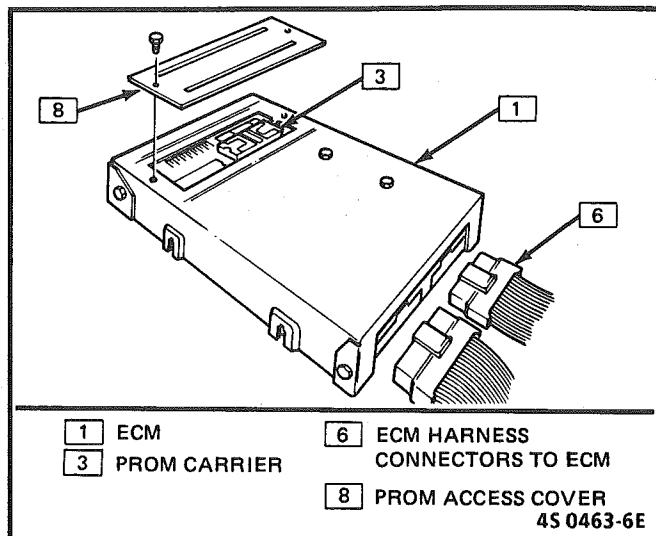

Figure C1-10 PROM Access Cover
4. Prom access cover (see Figure C1-10).